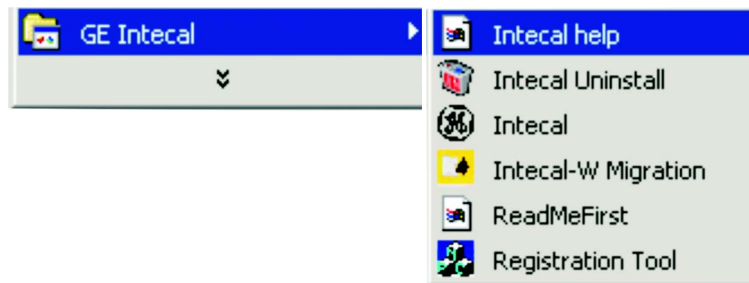

Figure 1-1: *Intecal program group*
1. On the Windows taskbar, click on the *Start* button and select *Programs > GE Intecal > Intecal Uninstall* (Figure 1-1).
Note: You can also start intecal from the Intecal program group (Figure 1-1).